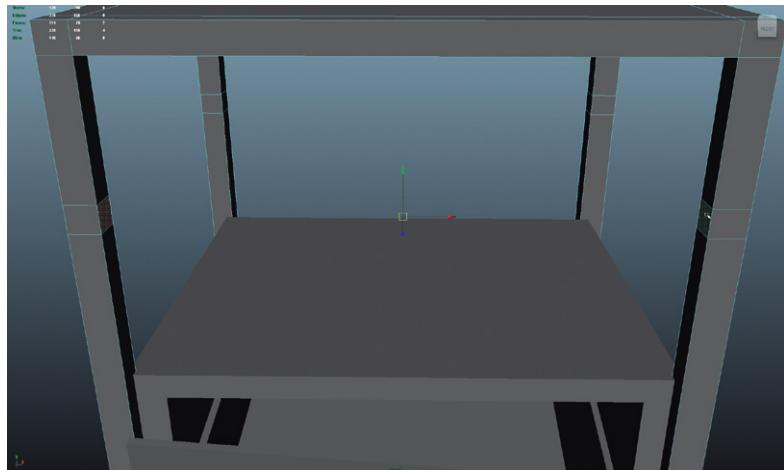

FIG 3.56 Selecting the faces to be bridged.
Step 12: Select the faces to bridge. In Face Mode, select two faces that face each other on the inside of any two legs (Fig. 3.56).